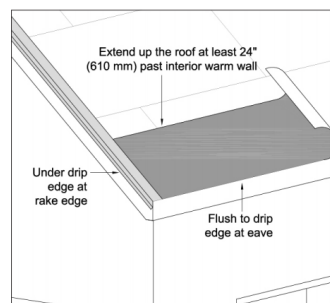

Figure 2
- Ice dam protection is required by most codes in northern climates and should be installed at a min. of **24"** beyond the **"warm wall"** of the house noted in **Fig. 2**.